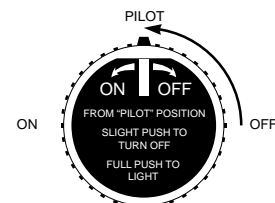

Figure 4 - PILOT Position
4. Turn control valve knob 1/4 turn to left to PILOT Position (see Figure 4).